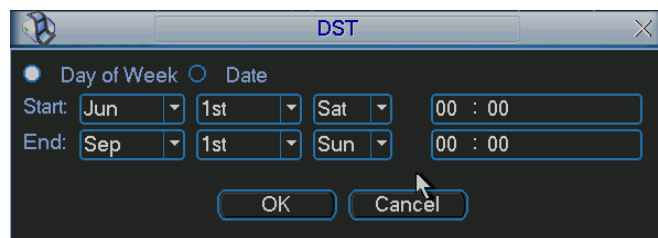
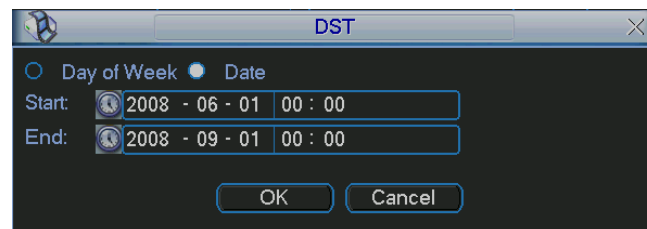

Figure 5-4
Figure 5-5
- DST: Here you can set DST time and date. Please enable DST function and then click set button. You can see an interface is shown as in Figure 5-4. Here you can set start time and end time by setting corresponding week setup. In Figure 5-4 , enable date button, you can see an interface is shown as in Figure 5-5. Here you can set start time and end time by setting corresponding date setup.